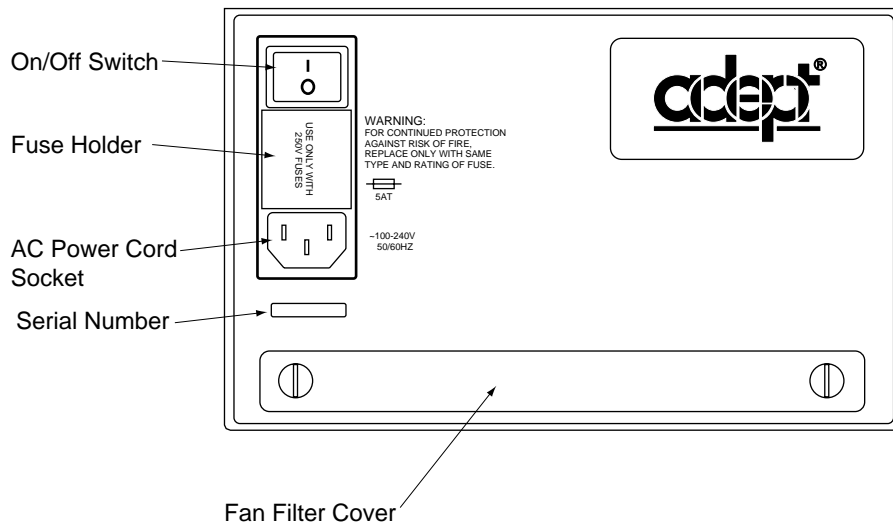

Figure 3-1. MV-5/MV-10 Power Entry Module
The identification (ID) label is located on the left or back side of the controller chassis. On it you will find the model and serial numbers and the voltage and current ratings. A smaller serial number label is also located on the front of the chassis near the On/Off switch (see Figure 3-1). You should always have this serial number available when you call Adept Customer Service for technical support.
The fan filter must be inspected at least once per month to check for dirt and dust buildup. The fan filter is located behind the filter cover on the front of the controller (see Figure 3-1). See Chapter 14 for information on inspecting and cleaning the fan filter.